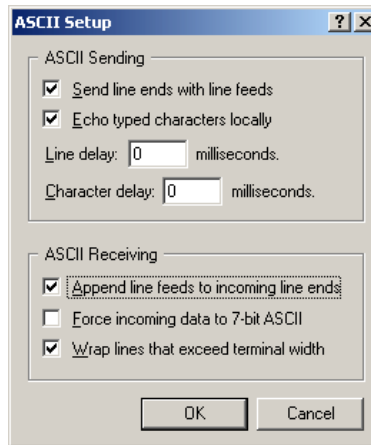

Figure 19. Additional Terminal program settings
2. In the PC terminal program, set the properties in the optional settings as shown in Figure 19.